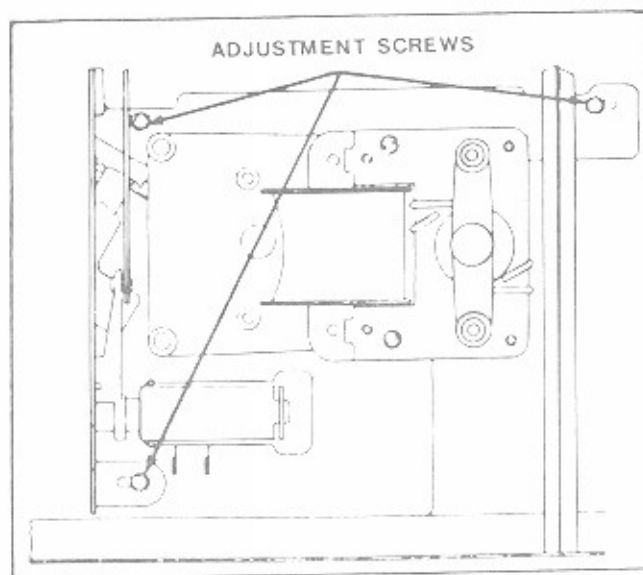

Figure 6-14. Magazine Adjustment
5. With sprag wheel locked, move the magazine until the disc is centered in the magazine vertical slot (The adjustment screws will be approximately centered in the slots, *see figure 6-14*).